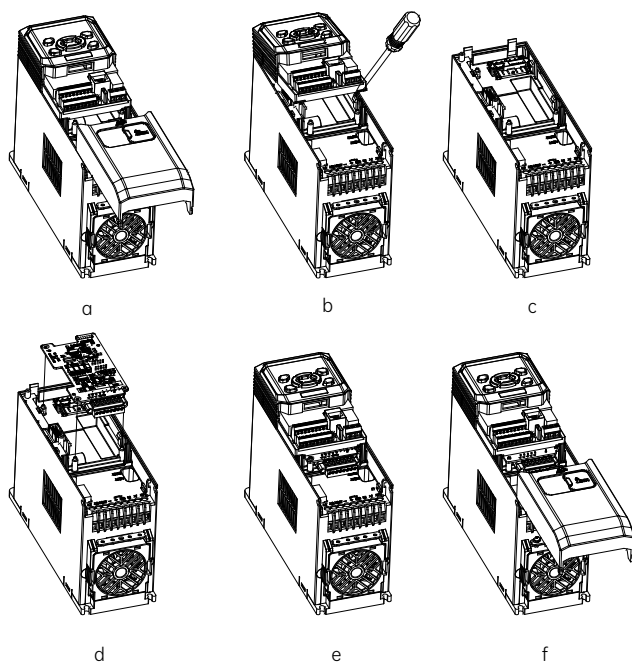

Fig. 2-3 Position 1 - PG card installation steps
- (1) When the drive is powered off, press the granulated part on the middle-upper of the lower cover, slide it down firmly to take down the cover, as shown in Fig. 2-3 a.
- (2) Use a straight screwdriver to pry open the two snap-fit joints between the control box and the drive, and then remove the control box upwards, as shown in Fig. 2-3 b and c.
- (3) Install the PG card: hold the PG card with its terminal block downwards, then align the three round holes on the PG card with the location column, and press down to buckle the PG card firmly into the four snap-fit joints, as shown in Fig. 2-3 d.
- (4) After the PG card is installed, align the control box with the snap-fit joints, and press down the control box to make its lower part firmly buckled, then slide the lower cover to lock it on the drive, as shown in Fig. 2-3 e and f.